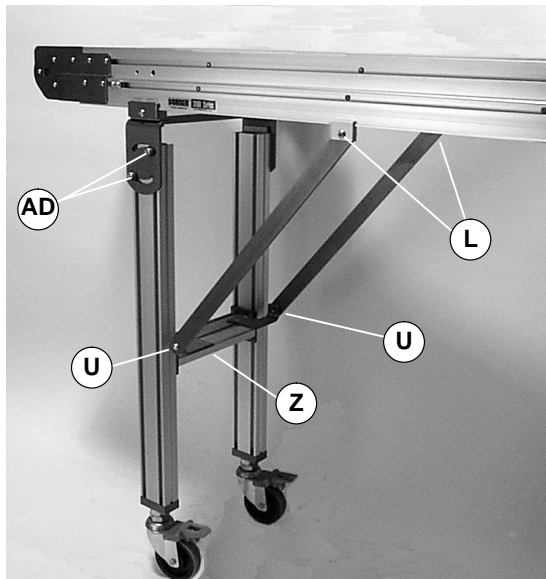

Figure 14
1. Loosen screws (L, U & AD of Figure 14) on both sides of stand.
<p>! WARNING</p> <p>Failure to secure screws (L, U & AD of Figure 14) may cause conveyor sections to drop down, causing severe injury.</p> <p>TIGHTEN SCREWS (L, U & AD) AFTER ADJUSTMENT.</p>
NOTE: Crossmember (Z of Figure 14) may need to be re-located (see step 6 on page 5).
<p>! WARNING</p> <p>Loosening screws (AD of Figure 14) may cause conveyor sections to drop down causing severe injury.</p> <p>SUPPORT CONVEYOR SECTIONS PRIOR TO LOOSENING SCREWS.</p>
1. Loosen screws (AD of Figure 14) on both sides of stand.
<p>! WARNING</p> <p>Failure to secure screws (AD of Figure 14) may cause conveyor sections to drop down, causing severe injury.</p> <p>TIGHTEN SCREWS (AD) AFTER ADJUSTMENT.</p>
3. Secure screws (AD of Figure 14) to 24 ft-lb (18 Nm).